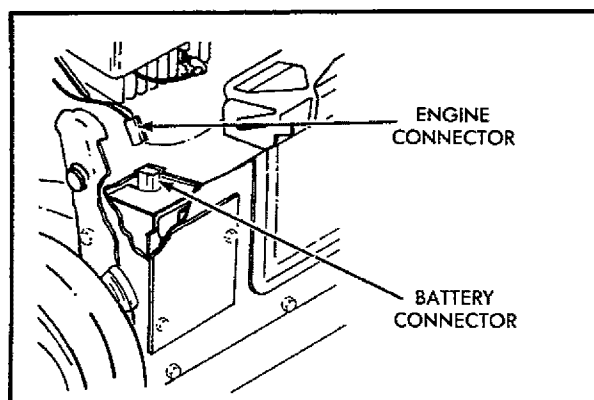

FIG. 14
4. After charging, connect engine connector to battery connector (See Fig. 14).